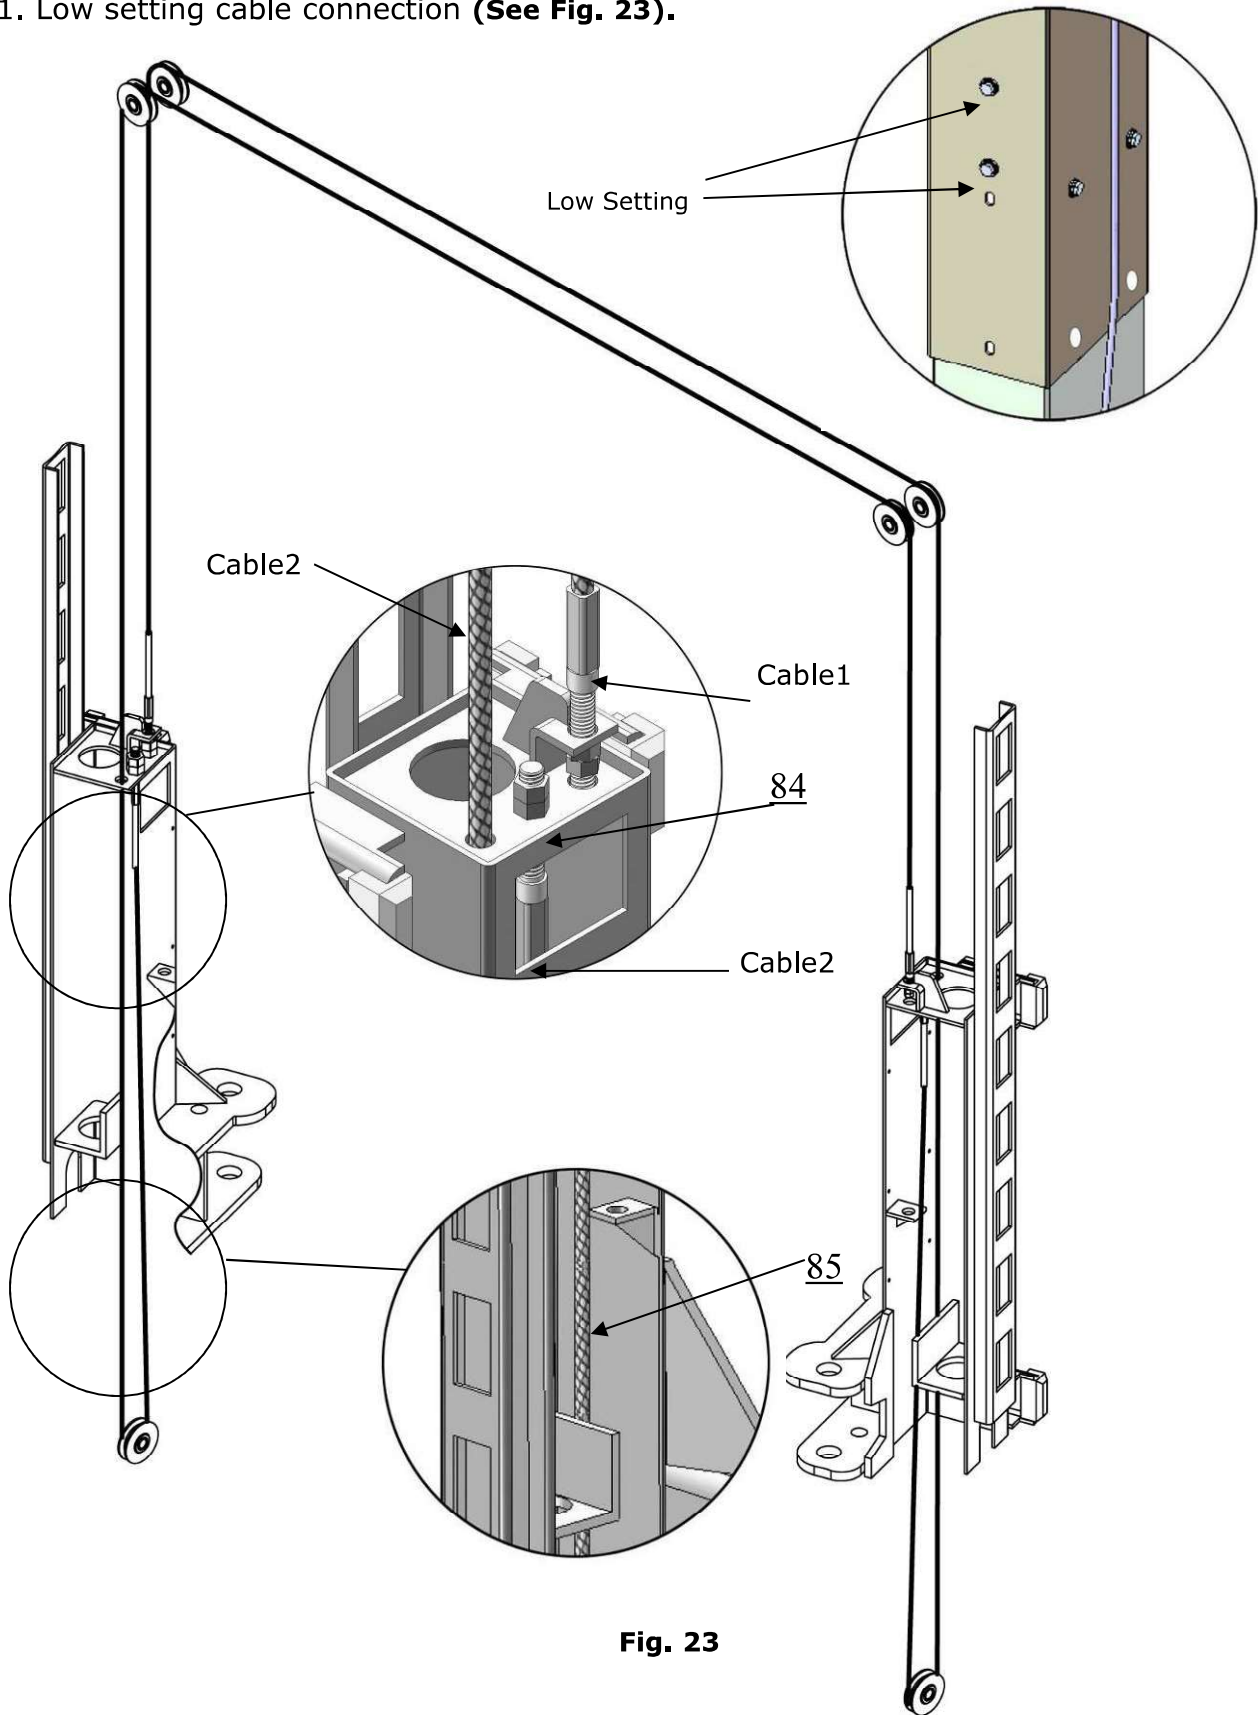

Fig. 23
1. Low setting cable connection (See Fig. 23).